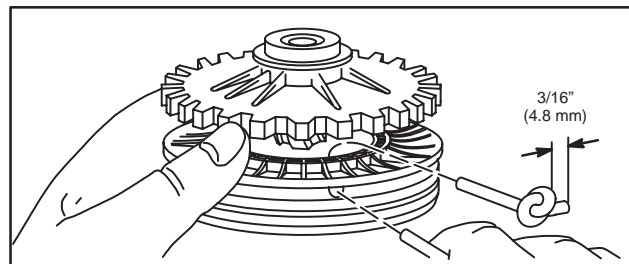
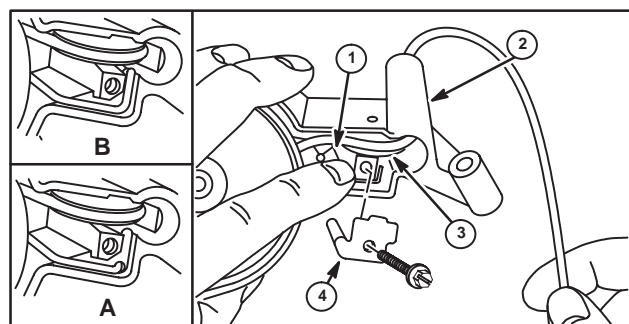

Fig. 59
Fig. 60
- Tie a small knot, heat seal and pull tight into recess in rope pulley. Maximum size shown. Rope must not interfere with gear motion, Fig. 59.
- Install pulley and gear assembly in housing, with link (1) in pocket or hole of casting, as shown. Inset "A" shows current style link, "B" shows alternate style.
- Install small pulley (3), rope pulley pin, and rope guides (2, 4), Fig. 60.